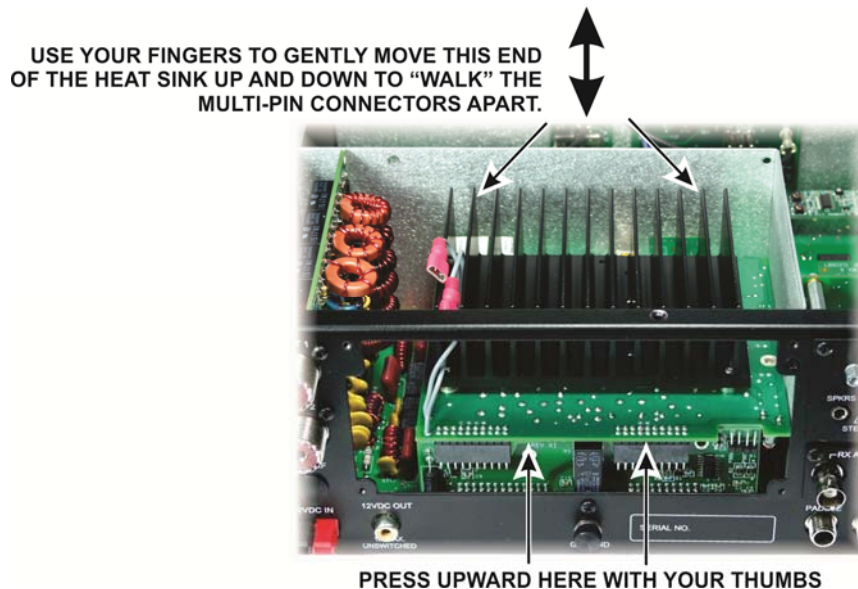

Figure 4. Removing the KPA3 Module.
- Unplug the KPA3 module from the two multi-pin connectors at the rear edge by placing your thumbs under the back edge of the KPA3 board near the connectors and placing your fingers on the heat sink to gently move the opposite edge of the KPA3 up and down (see Figure 4). This will “walk” the connectors apart, freeing the module.